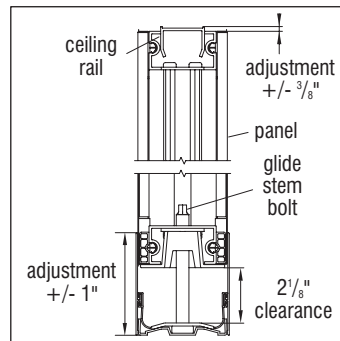

Figure 5
5. Panel height adjustment (Figure 5).